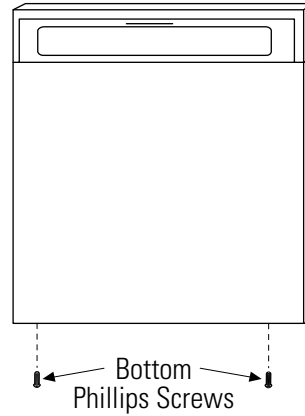

Figure 3
- Remove the two screws on the bottom of the door panel (Figure 3). Retain screws.